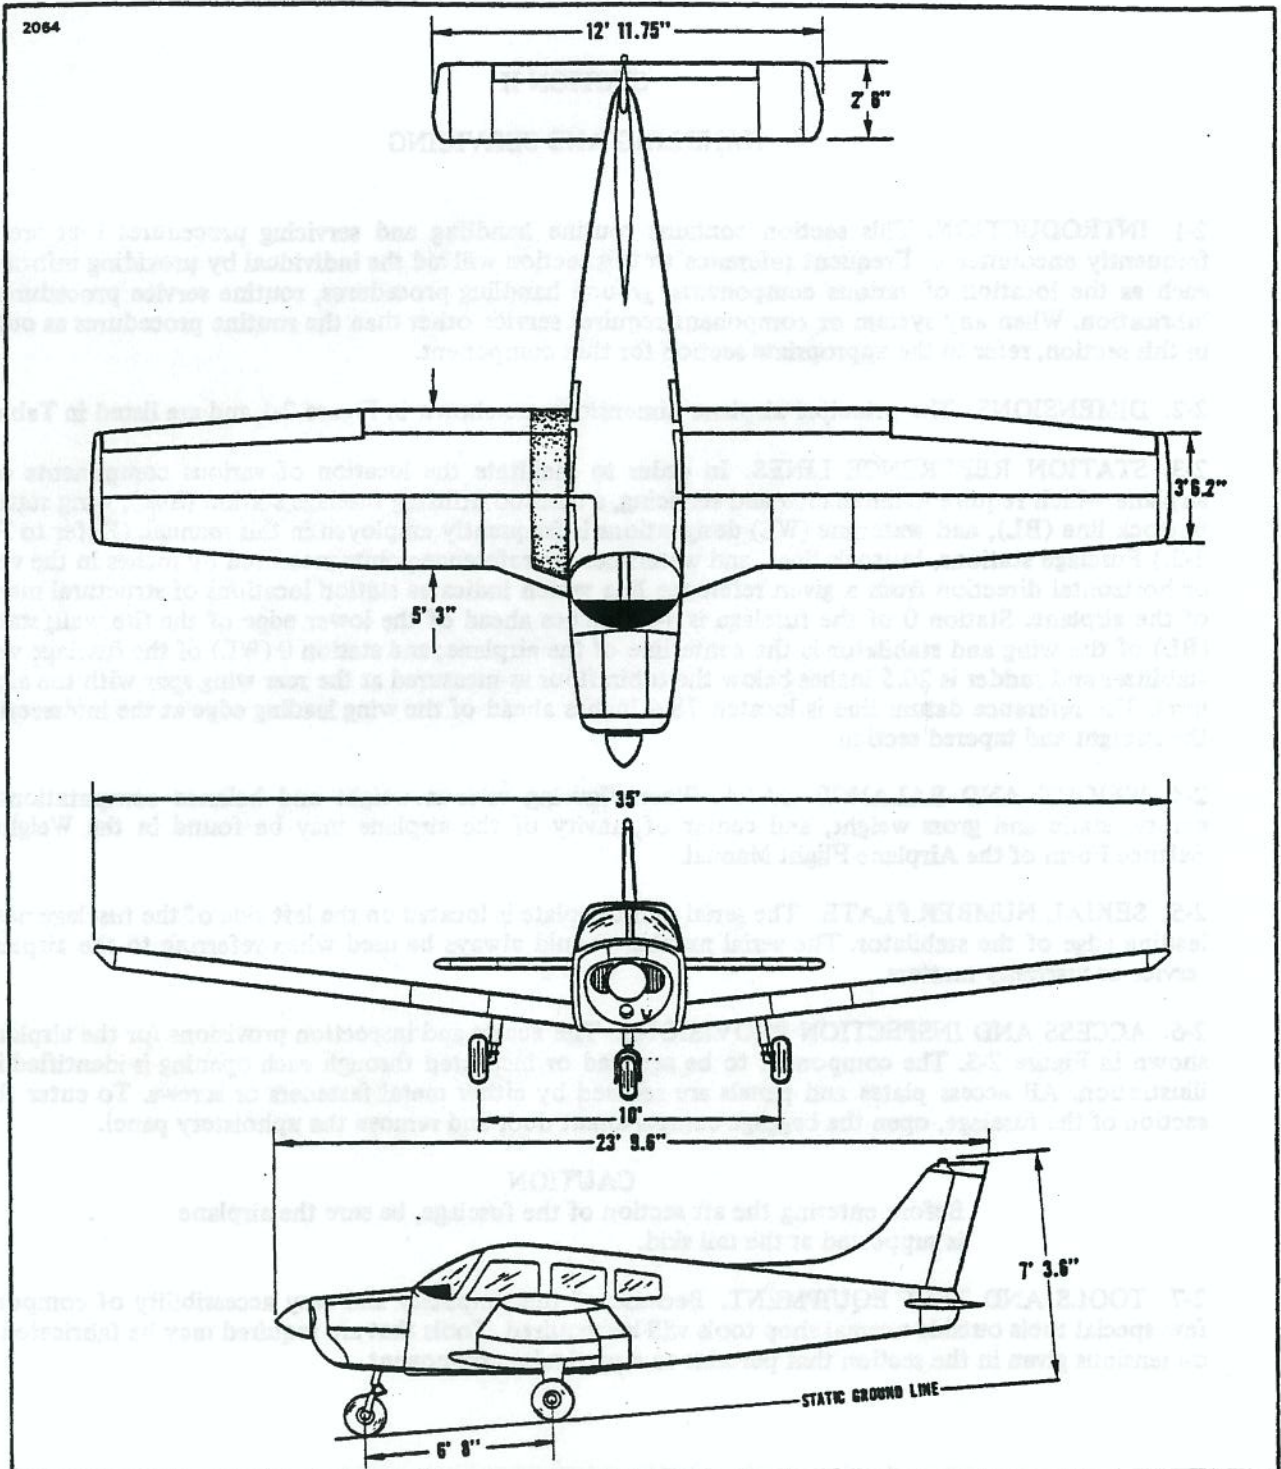

Figure 2-1. Three View
**2-2. DIMENSIONS.** The principal airplane dimensions are shown in Figure 2-1 and are listed in Table II-I.